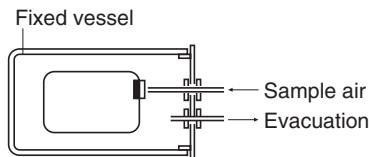

FIG 4.4 COLLECTION BY BAG
(2) The sample is sometimes adsorbed to the diaphragm of the diaphragm pump for sampling into a bag. Instead of the diaphragm pump, therefore, the bag shall be placed in a vessel which will be evacuated as shown in FIG. 4.4.